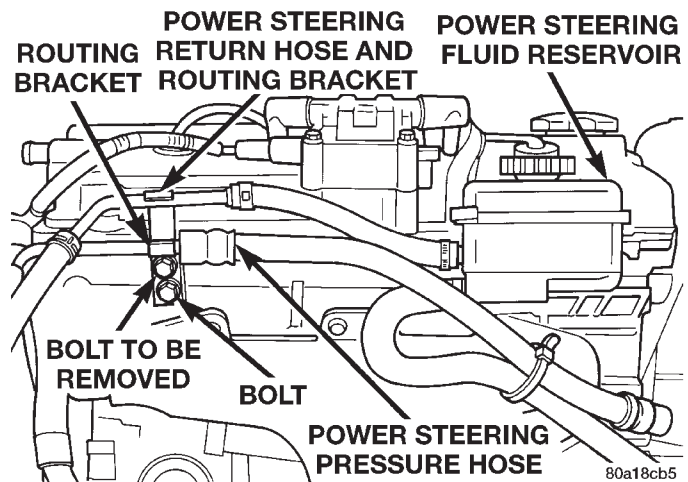

Fig. 21 2.4 Liter Power Steering Hose Routing
(6) If vehicle is equipped with a 2.4 liter engine, remove power steering pressure hose routing bracket from the power steering return hose routing bracket on rear of engine (Fig. 21). Then remove the bolt (Fig. 21) attaching the power steering pressure hose routing bracket to the cylinder head.
(6) Correctly route power steering return hose up to the power steering fluid reservoir, avoiding tight bends or kinking of the hose.
(7) **If vehicle is equipped with a 2.4 liter engine**, install power steering return hose routing bracket on rear of cylinder head (Fig. 21) and securely tighten bolt. Then install the power steering pressure hose routing bracket on the return hose routing bracket (Fig. 21) and securely tighten attaching bolt.